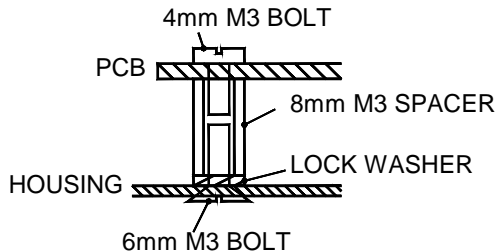

Fig 2.0
- Mount three spacers to the bottom of the housing, together with a shakeproof washer and an M3 countersunk bolt, see figure 2.0